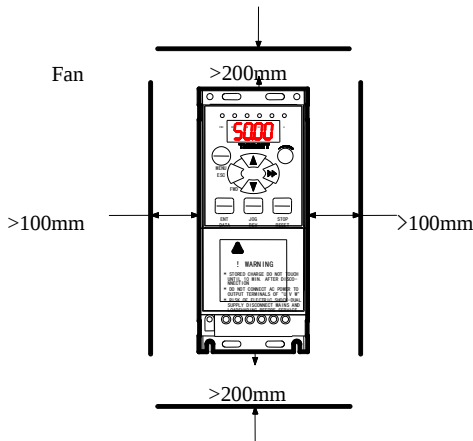

Fig 2-1. Installation space
- The mounting space and distance are shown in Fig. 2-1.